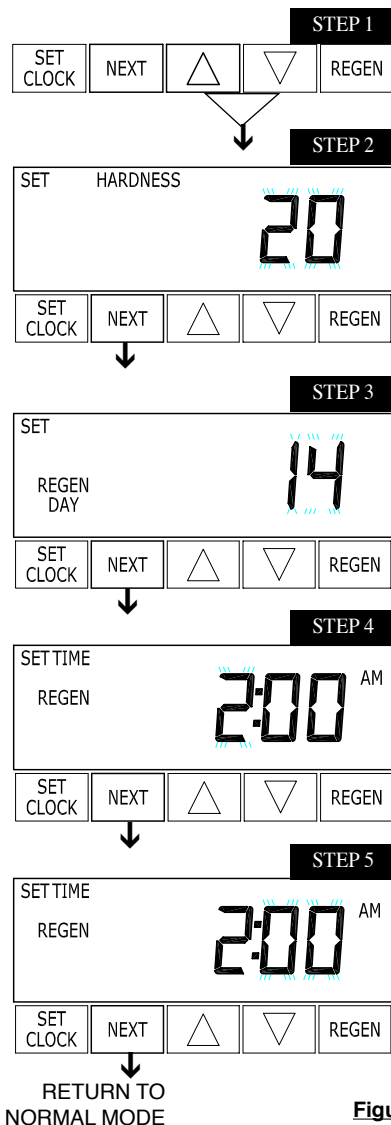

Figure 9
13. Next set your softeners water hardness, days override and regeneration time settings (see figure 9, page 7).